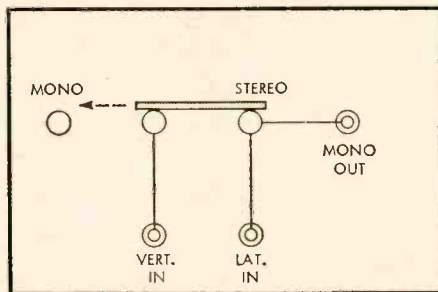

Fig. 1.
*I wonder whether this arrangement is proper. I made up a unit, using a minibox, a SPDT slide switch, and three phono jacks wired as in Fig. 1. I wanted to be able to prove whether paralleling of the cartridge elements is proper.*